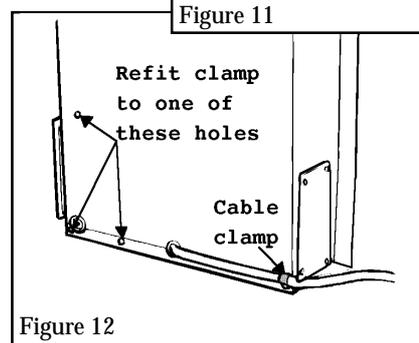

Figure 12
6.6.2 Remove the fan cable clamp from the rear left of the convection box. Replace the screw thus removed into the convection box. Clamp the cable at one of the screws at the right side of the box (see figure 12).